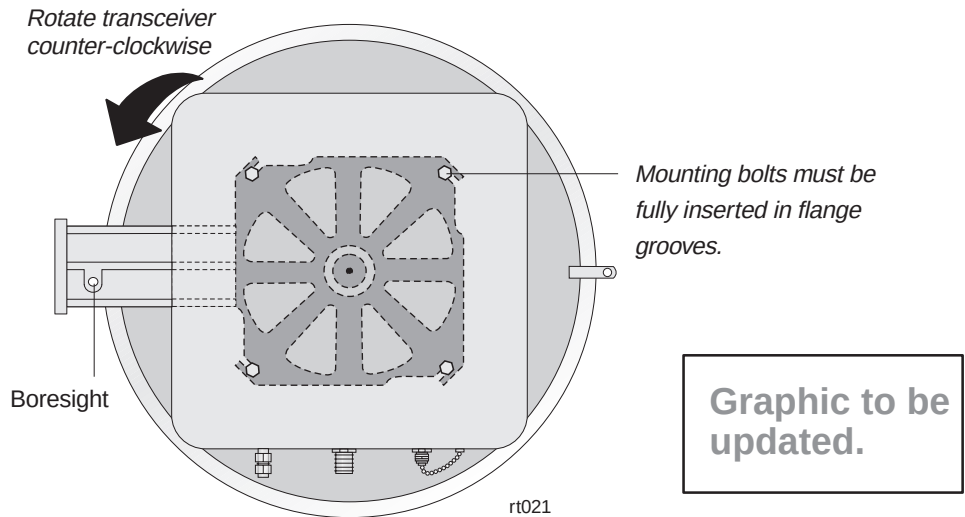

Figure 6-20 Transceiver (installed)
3. Rotate the transceiver, making sure the transceiver's mounting bolts slide into the grooves in the antenna flange. (The direction of rotation depends on the orientation of the antenna bracket—to the right or left.) If the mounting bolts will not slide into the grooves, loosen the bolts. See figure 6-20.
5. After tightening the transceiver, look through the boresight to make sure the antenna is still accurately pointed at the HT. See figure 6-20 for boresight location.